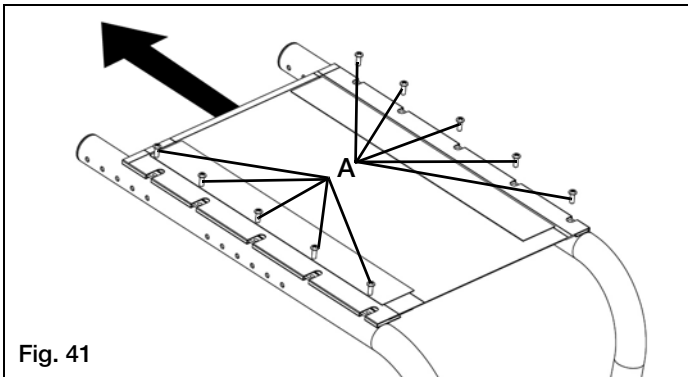

Fig. 41
- b. Loosen Phillips head screws (Fig. 41:A) on same side of seat upholstery as tension adjustable flap.
- f. Retighten Phillips head screws (Fig. 41:A).